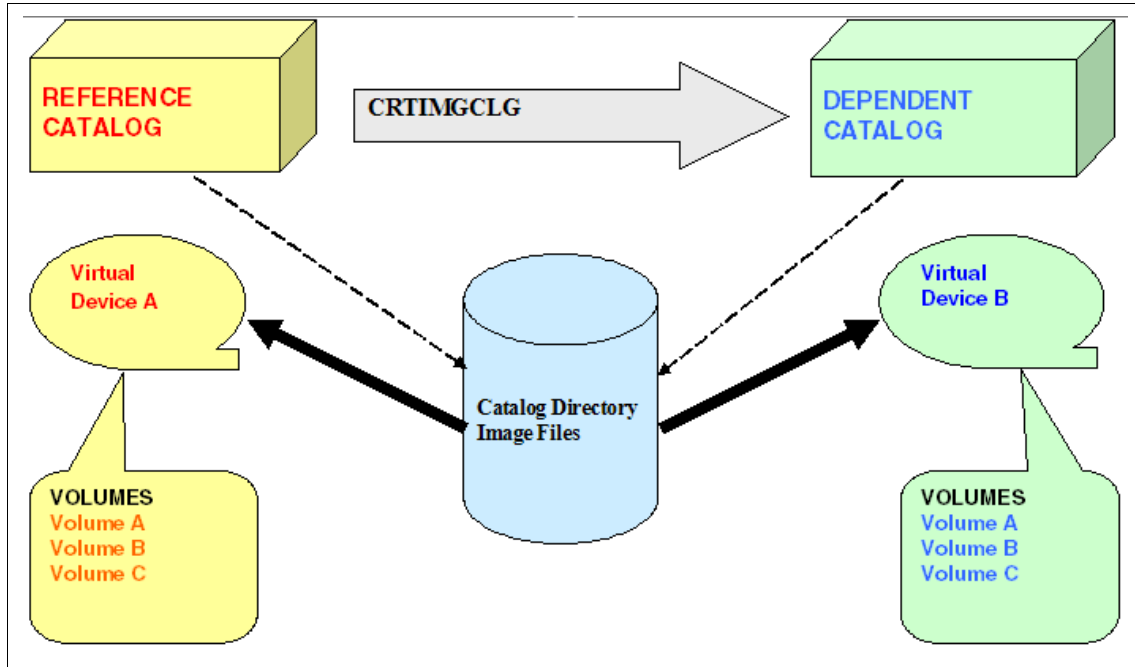

Figure 3-79 Catalog shadowing diagram
*Catalog shadowing* is a method used to share a single image or multiple virtual images by using more than one virtual device. This is made possible by creating a “snapshot” of the original image catalog. Figure 3-79 on page 121 illustrates catalog shadowing.